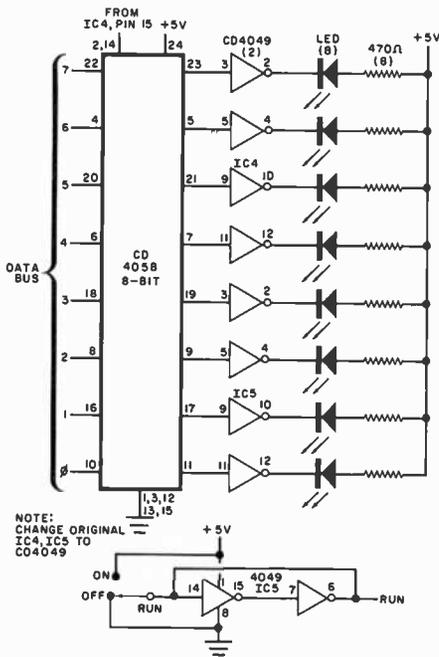

Fig. 1. Circuit for a discrete LED display.
**The Hardware.** The hex displays called for in the original Elf project can be replaced with a discrete LED circuit as shown in Fig. 1. You will need a CD4508 eight-bit register, eight low-current LED's, two 4049 hex inverters, and eight 470-ohm, 1/2-watt resistors. When the LED circuit is substituted for the hex displays, current consumption will be reduced by about 150 mA. The input comes from the data bus, which formerly went to hex displays IC4 and IC5.